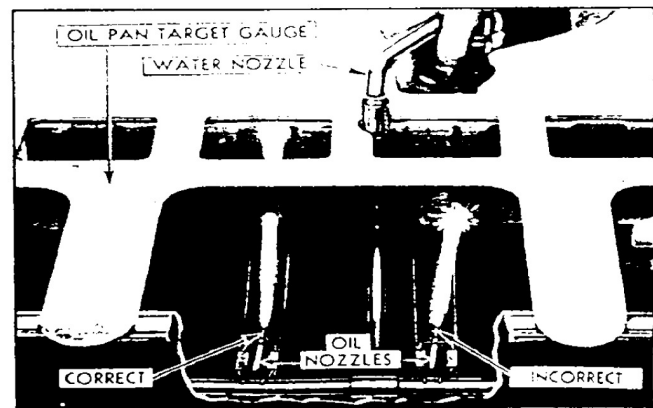

Fig. 22—Checking Aim of Oil Nozzles
4. Open the water nozzle just enough to straighten the water streams at the ends of the nozzles. If the oil nozzles are properly adjusted, the water stream will pass through the centers of the target holes. Correct and incorrect aiming of the nozzles is shown in Figure 22.